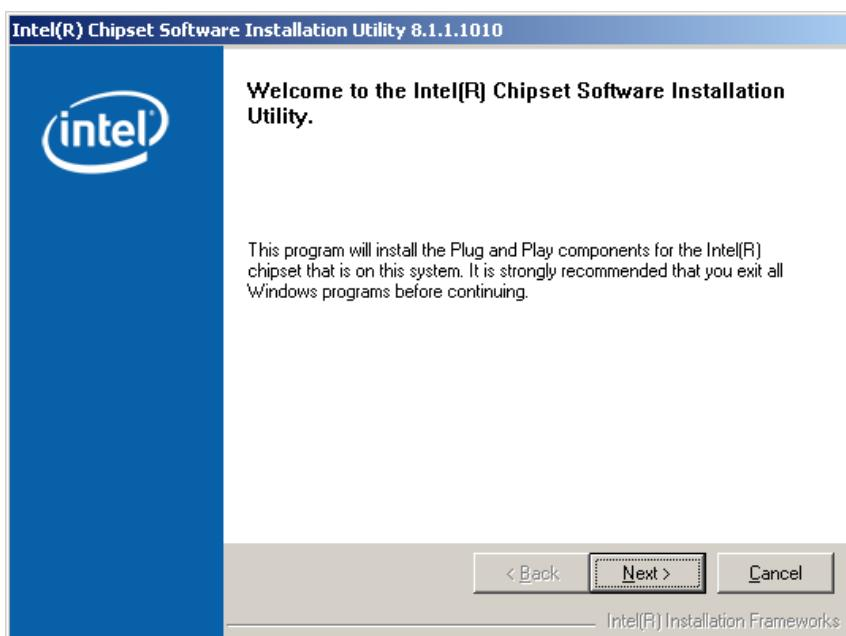

Figure 7-4: Chipset Driver Installation Welcome Screen
Step 4: The welcome screen in **Figure 7-4** appears.
Step 5: Click **NEXT** in **Figure 7-4** to continue the installation process.